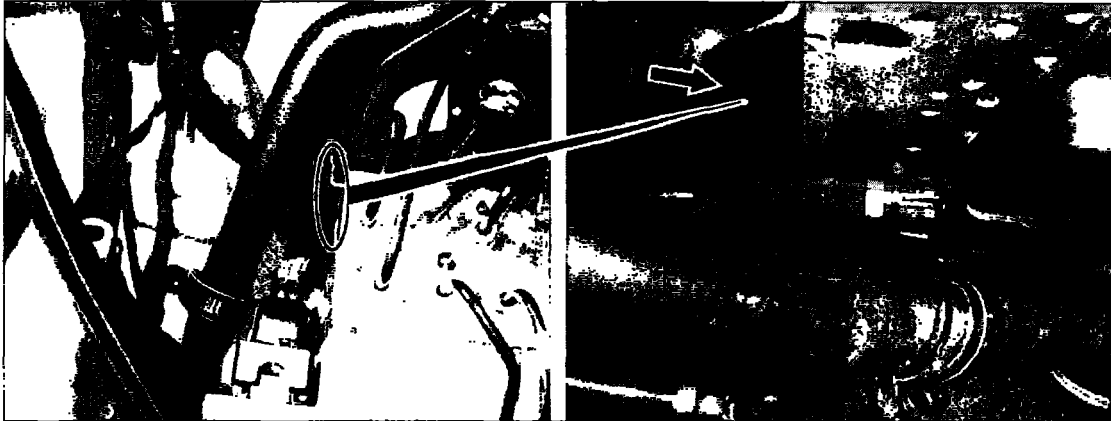

Figure 1
2. Check if bracket (arrow, Figure 1) is installed on the SBC hydraulic unit: